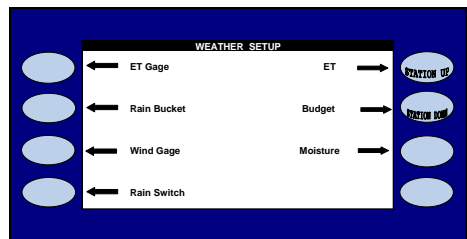

Figure 5.2
The WEATHER SETUP screen is displayed (Figure 5.2).
13. Press the **BACK** key to return to the WEATHER SETUP screen (Figure 5.2).
From the WEATHER SETUP screen (Figure 5.2).
From the WEATHER SETUP screen (Figure 5.2):